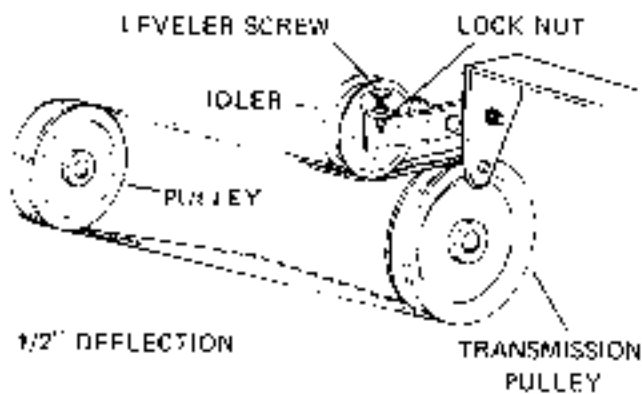

FIG. 8
**Removal** Screw the leveler screw all the way in until the idler is loose and remove the belt. (See Fig. 8)